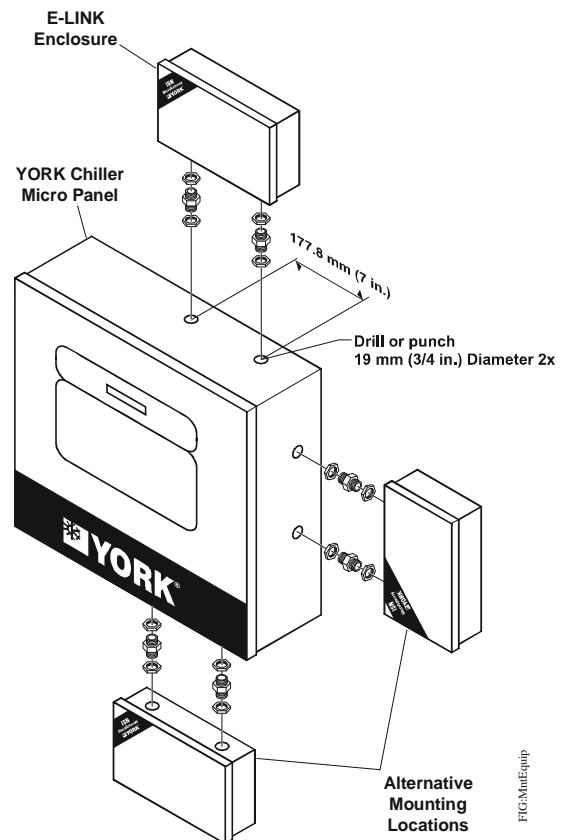

Figure 4: Mounting on the Equipment
2. Make sure the E-link Gateway enclosure fits properly and that no obstructions, such as internal boards, switches, or external conduit, prevent mounting or servicing of the panel. See Figure 4 for examples of good mounting locations.